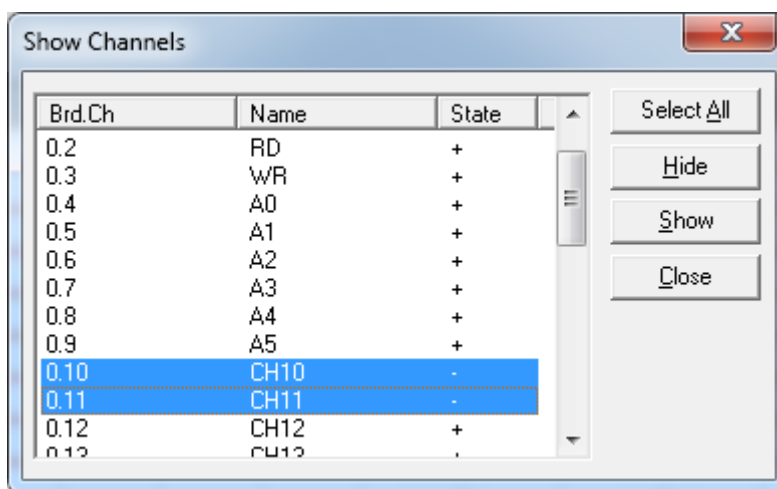

Figure 5-2: Show Channels Dialog Box
3. To redisplay a hidden channel, select Channel/Show  from the Main menu. A dialog box (Figure 5-2) displays. Viewable channels display with a "+" and hidden channels display a "-" in the *State* column. Select the channels to display and click **Show** (multiple selections are supported). The selected state(s) display "+". Now click **OK**. Selected channels that were hidden now display in Vector View. Channels, which are selected but not hidden, are unaffected.